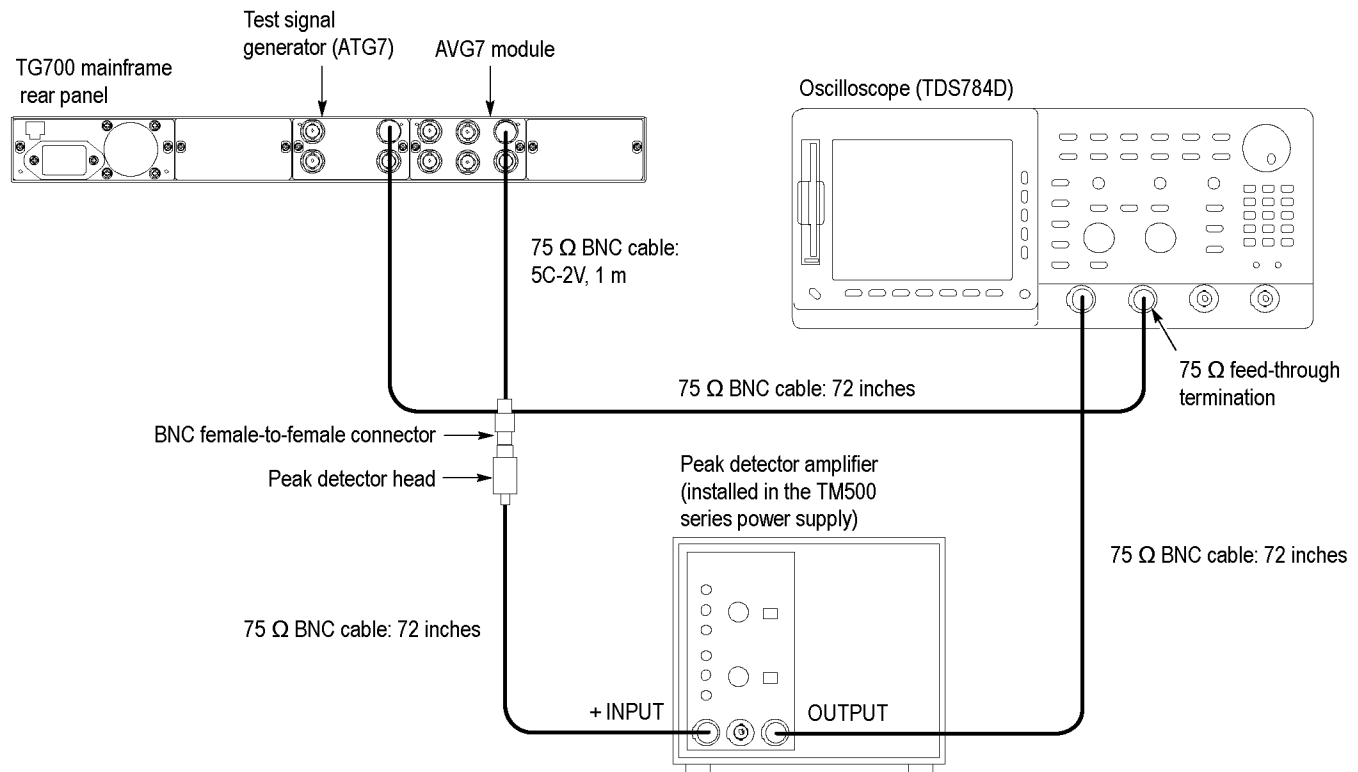

Figure 16: Equipment connection for verifying the frequency response
1. Use the two 75 Ω BNC cables, peak detector head, and BNC female-to-female connector to connect the upper CH 1 connector on the AVG7 Generator module to the +INPUT connector on the peak detector amplifier as shown in the following figure. (See Figure 16.)
2. Use the 75 Ω BNC cable to connect the OUTPUT connector on the peak detector amplifier to the CH 1 input connector on the oscilloscope as shown in the following figure. (See Figure 16.)